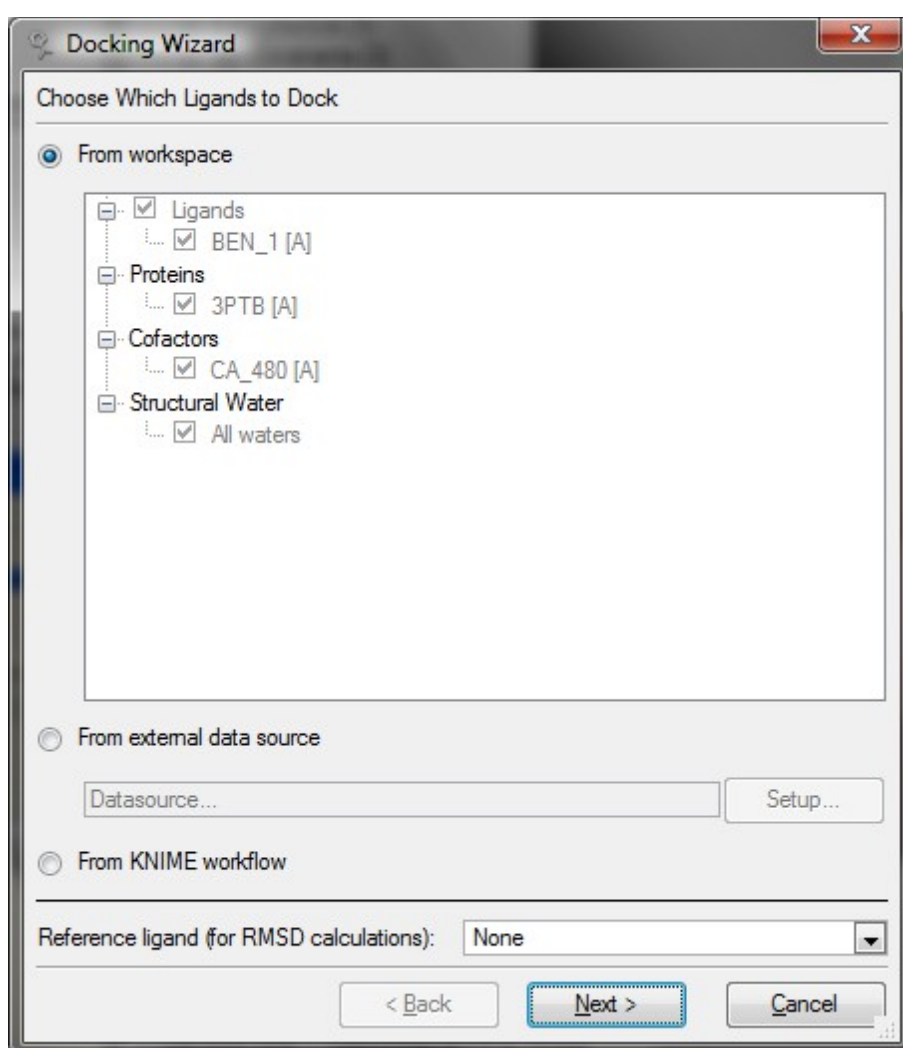

Figure 63: Select which ligands to dock.
*Notice:* If more than 10 ligands are present in the workspace, a subset of the ligands can be selected for docking using the **Specify ligand range** option (not shown on Figure 63).